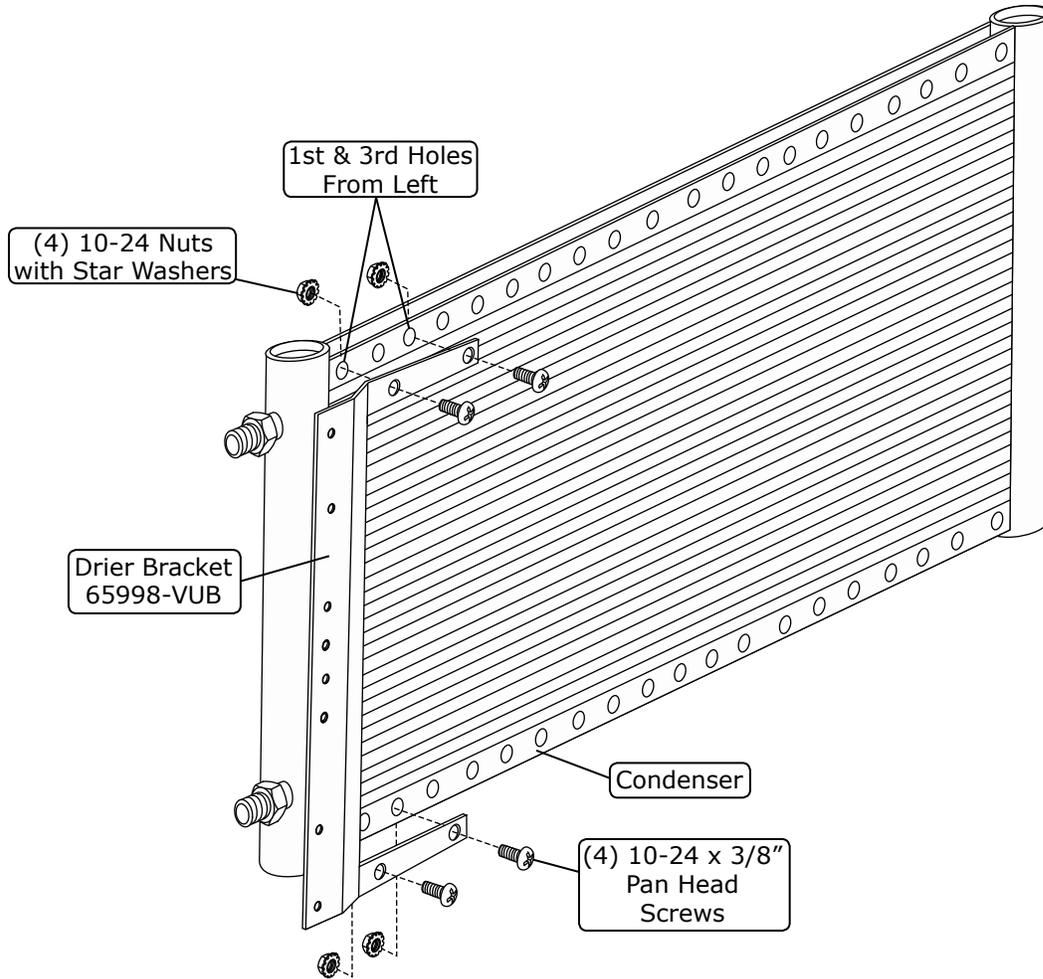

Figure 1
1. On a workbench, install the drier mounting bracket onto the condenser using (4) 10-24 x 3/8" pan head screws and (4) 10-24 nuts with star washers (See Figure 1, below). **NOTE: The bracket mounts through the 1st and 3rd holes from the left side of the condenser.**